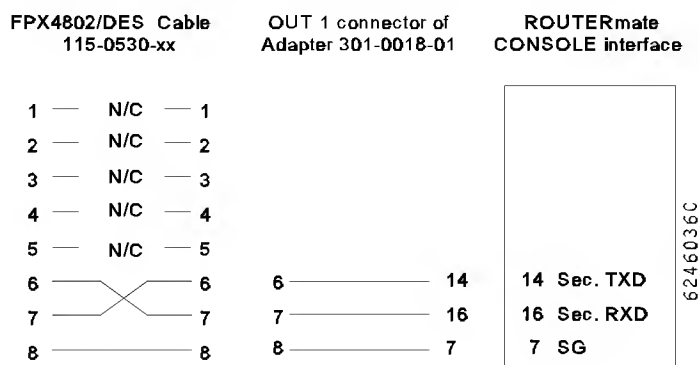

Figure 2-13. Cable Connections to FPX4802/DES Frame Relay Encryptor
3. If an FPX4802/DES Frame Relay Encryptor is being connected in-line between the Routermate T1 D&I and the managed Device 0, connect cable 115-0530-xx (Figure 2-13) from the adapter connector labeled **OUT 1** to the FPX4802/DES's **RING L/CONSOLE** interface (this is the terminal cable shipped with the FPX4802/DES). Configure the FPX4802/DES as described in the FPX4802/DES manual.